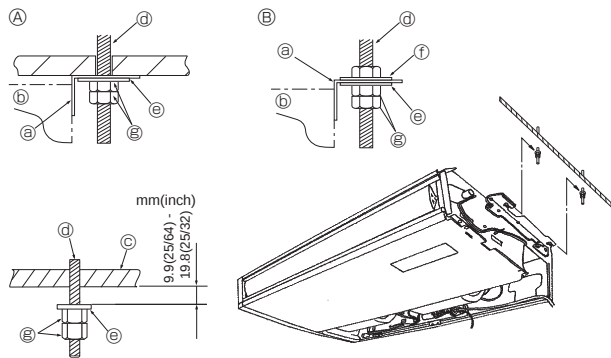

Fig. 3-6
② Forcing open the intake grille or opening it to an angle of more than 120° may damage the hinges.
3.3. Installing the indoor unit (Fig. 3-6)